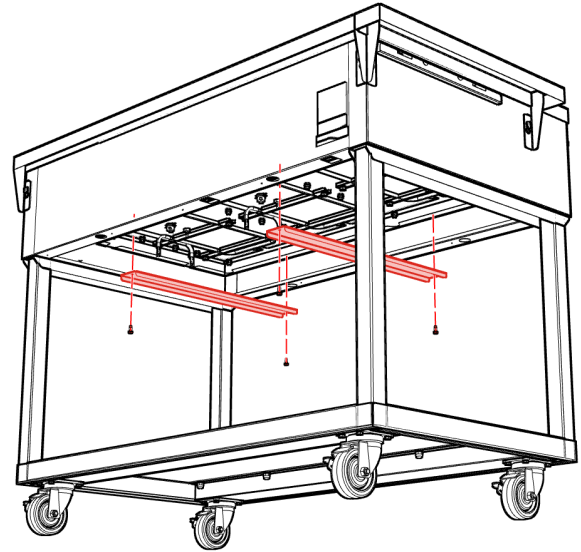

Fig. 9
2. For EACH bracket, remove two (2) M4.8 × 13 mm hex head screws fastening insulation brackets to unit (Fig. 9). Drop brackets and insulation out of unit.